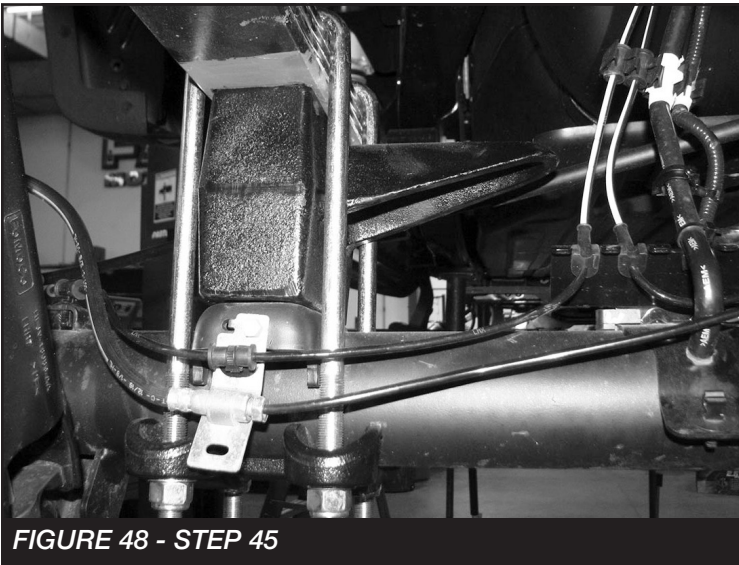

FIGURE 48 - STEP 45
45. Locate and install the rear lift blocks FTBK52. The extended bump stop perch will be facing inboard of the truck. Using the provided u-bolts, nuts and washers, align the axle, lift blocks, and springs and torque u-bolts to 184 ft-lbs. **SEE FIGURE 48**